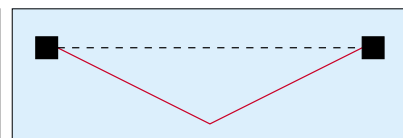

Figure 2: The plucked string a fraction of a second after release.
- audible result is nevertheless as similar as it is possible for two such different synths to be. Moreover, although the SH101 is unable to recreate much of the patch in Figure 2, set up carefully and played sympathetically it can still sound remarkably brassy.
Each point on the string now starts moving towards the dashed line. Once the string reaches this point, its tension stops accelerating it, and begins to decelerate it as it stretches in the other direction. At some point soon after, the string comes to rest in the position shown in Figure 2 (above right), and at that moment the forces begin to pull it back towards its starting position.